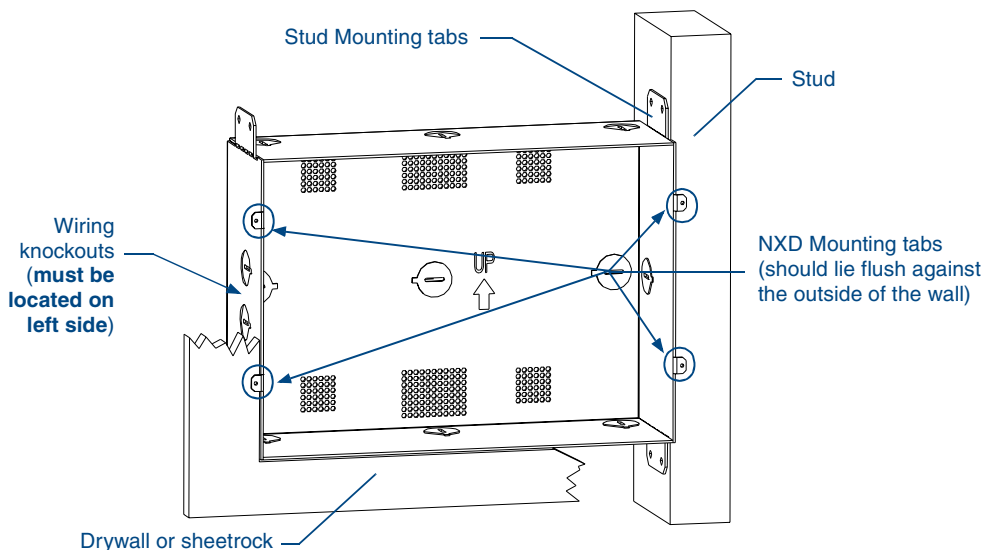

FIG. 20 CB-TP10 conduit box components
The CB-TP10 is an optional metallic box that is secured onto a stud/beam in a **pre-wall** setting (*where no walls are present*). Installation procedures and configurations can vary depending on the installation environment. This section describes the installation procedures for the most common installation scenario. The most important thing to remember when mounting this conduit box is that the NXD-1000Vi Mounting Tabs must lie flush against the outside of the sheetrock (FIG. 20).
2. Fasten the CB-TP10 conduit box to the stud through the holes on the right Stud Mounting tabs (FIG. 20), using either nails or screws.
3. Remove the wiring knockouts from the left side of the conduit box (CB-TP10) (FIG. 20) to accommodate the cables being threaded through to the NXD touch panel.